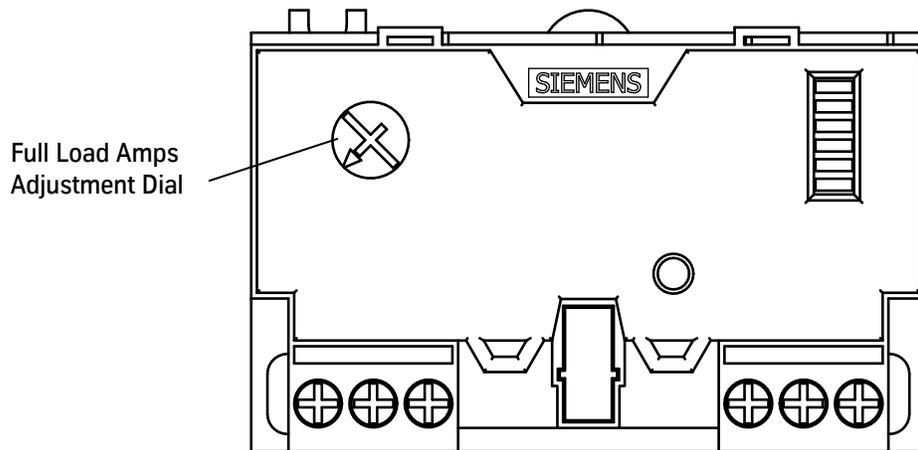

Figure 10 - ESP200 Overload Adjustment
2. Set the full load amps adjustment dial to the overload current setting from Step 1. See Figure 10.